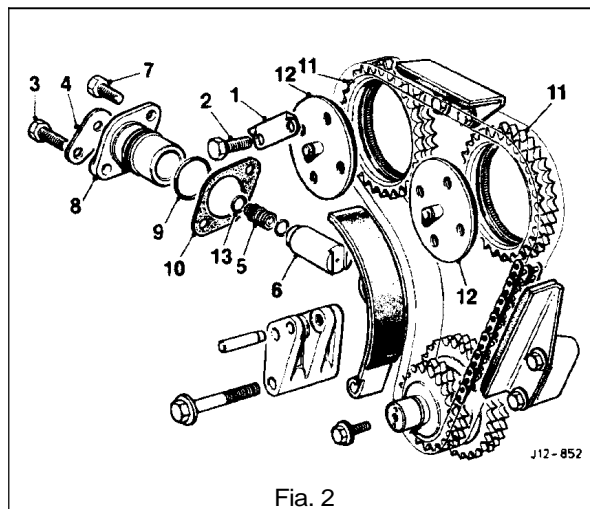

Fig. 2
- Push back the lock tabs (1 Fig. 2) from the camshaft sprocket securing bolts (2 Fig. 2), and slacken off the bolts.
- Remove the upper chain tensioner valve clamp bolt (3 Fig. 2), remove the clamp (4 Fig. 2) and remove the valve (5 Fig. 2).
- Using a 3mm Allen key, wind back the tensioner (6 Fig. 2) (turn clockwise) until the snail engages in the park position. Remove the tensioner housing securing bolt (7 Fig. 2) and withdraw the tensioner assembly (8, 9 Fig. 2).
- Remove and discard the 'O' ring (9 Fig. 2) and gasket (10 Fig. 2).
- Remove the camshaft sprocket securing bolts and tab washers (1, 2 Fig. 2) and remove the sprockets (11 Fig. 2) (ensure that neither the bolts nor the tab washer drop into the timing case).